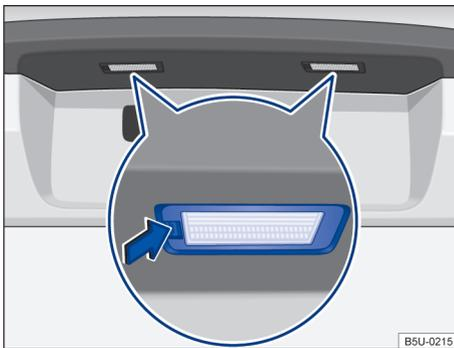

Fig. 139 On the rear bumper: remove the number plate light.
- 2 Using a screwdriver, press the lock → Fig. 139 to remove the assembly.